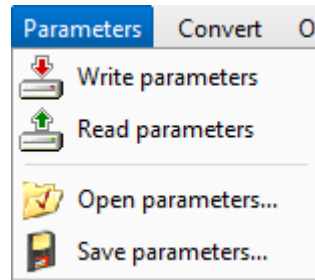

Fig. 4.14. The Parameters drop-down menu
6. Use the “Read parameters” in the Parameters menu (see Fig. 4.14) to read current device settings. After this step, all GUI settings become active, allowing users to view and modify settings for the connected device.
12. To apply settings/parameters, load them into the device memory. To do so, use the “Write parameters” item under the Parameters menu (see Fig. 4.14).
**Important:** After changing any device settings/parameters within the IMU GUI, write them into device memory. To do so, use the “Write parameters” option in the Parameters menu (see Fig. 4.14). Otherwise, the changes will not be applied.
13. To apply settings/parameters, load them into the device memory. To do so, use the “Write parameters” item under the Parameters menu (see Fig. 4.14).
The “**Parameters**” menu (see Fig. 4.14) enables the user to work with the device’s internal parameters. This menu contains the following items:
2. After changing any settings/parameters in the menu, by clicking on the “OK” button, it is possible to see information about which parameter was changed and its initial and final value for checking. After that, you must write them into the device memory so they make an effect (or save them in a file). Otherwise, the changes will not be applied. To do so, use the “Write parameters” item under the Parameters menu (see Fig. 4.14).